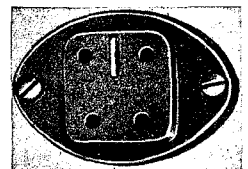

**Fig. 3 — 497A Jack Mounted in Outlet Box**
**5.01** The 391A, 493A and 497A jacks may be flush-mounted in outlet boxes, baseboards and panels. Fig. 3, 4, 5 and 7 show these mounting arrangements.
**5.02** The 497A jack in outlet box (Fig. 3) is mounted as follows:
2. Connect station wire to block, and dress as shown in Fig. 3.